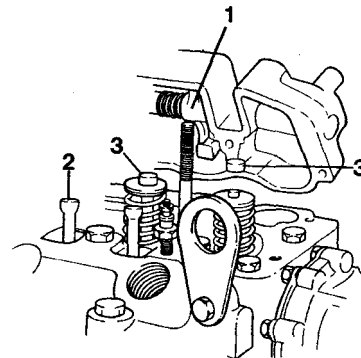

Fig. 13. Dismantling of rocker mechanism ( MD2040)
18. Release the nuts from the rockers' bearing brackets. Remove the rocker mechanism (1, Fig. 13) and pull rods (2). Remove the valve caps (3, MD2040) from the valve stem.